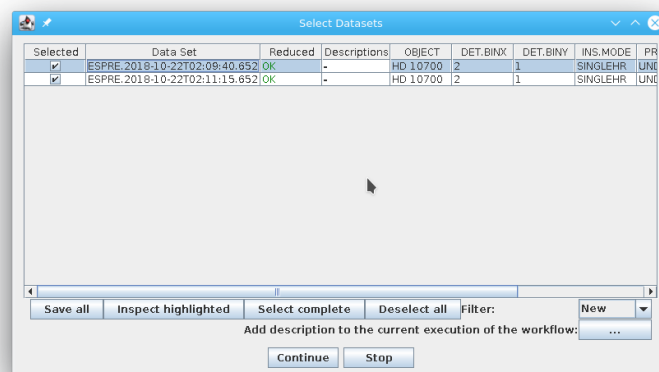

Figure 3.0.3: *The "Select Datasets" pop-up window.*
- The `Data Set Chooser` actor will be highlighted next and will display a “Select Datasets” window (see Figure 3.0.3) that lists the datasets along with the values of a selection of useful header keywords². The first column consists of a set of tick boxes which allow the user to select the datasets to be processed. By default all complete datasets which have not yet been reduced will be selected. A full description of the options offered by the `Data Set Chooser` will be presented in Section 6.3.2.